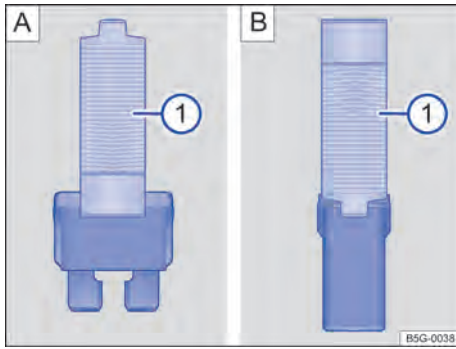

Fig. 178 Removing or installing the fuse with the plastic claw: [A]: flat fuse, [B] blocking fuse.
- If applicable, take the plastic tweezers → Fig. 178 ① out of the fuse box cover.
- According to the fuse type, apply the proper claw of the plastic tweezers → Fig. 178 [A] ① or → Fig. 178 [B] ① to the fuse sides.
- If the fuse has blown, replace it with a new fuse of the *same* amp rating (same colour and same imprint) and *same* size → ①.